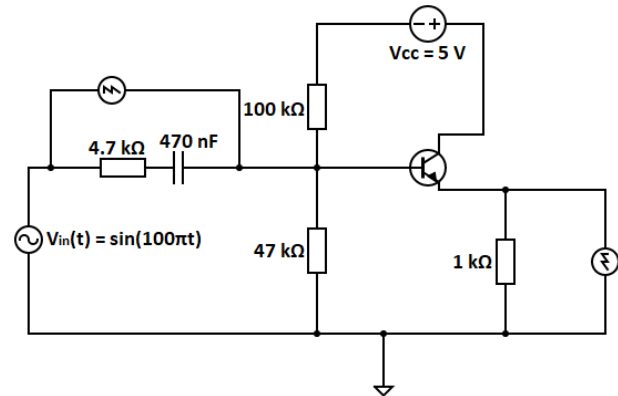

Fig. 4: Single Stage Common Collector Amplifier Circuit.
Figure 4 illustrates the circuit schematic.
- 1) **Assemble the Circuit:** Using the components provided, construct the Single Stage Common Collector Amplifier as shown in Figures 4 and 5. Double-check all connections and ensure the proper orientation of components, particularly the transistor.
- Change the oscilloscope connection to observe the output signal at the second measurement point, as shown on the right side of Figure 4. Ensure proper grounding after reconnection.